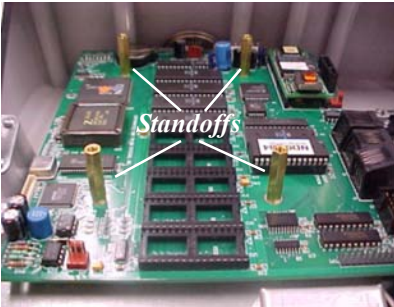

Figure 3. Remove standoffs.
- Use a 1/4" Nutdriver to remove the four (4) **long** standoff nuts that secure the Main Board in place, as shown in Figure 3. Carefully separate the Main Board from the SPED board underneath. Remove the Main board and set on a flat surface (preferably on an ESD mat).